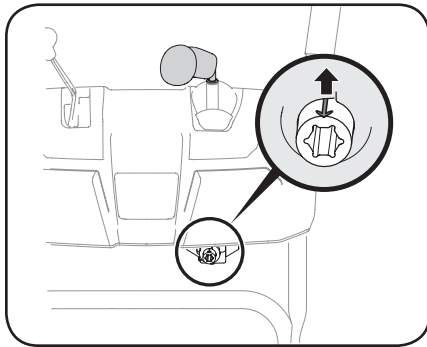

Figure 2-17
5. Rotate joystick to one o'clock position so the arrow on pinion gear below control panel faces upward. See Figure 2-17.